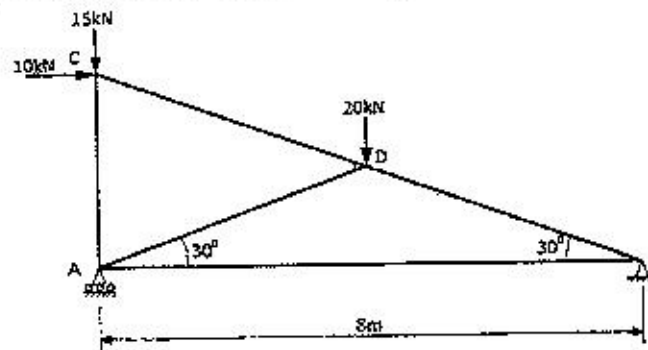

Fig. 3
- (b) Using the method of joint resolution, determine the magnitude and nature of forces for all the members of the frame shown in figure 3. (13  $\frac{1}{2}$  marks)